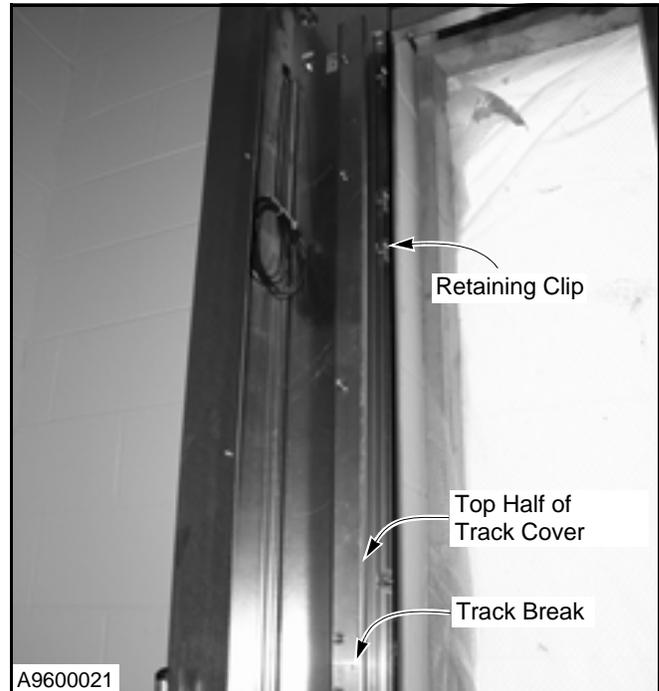

Figure 26
- Remove the track cover. Loosen the hardware to the retaining clips and lower the track assembly. (See Figure 26.)
NOTE: Depending on the height of the door, the track cover may be a one- or two-piece unit. If it is a two-piece unit, the top half of the track cover should be removed as shown in Figure 26.